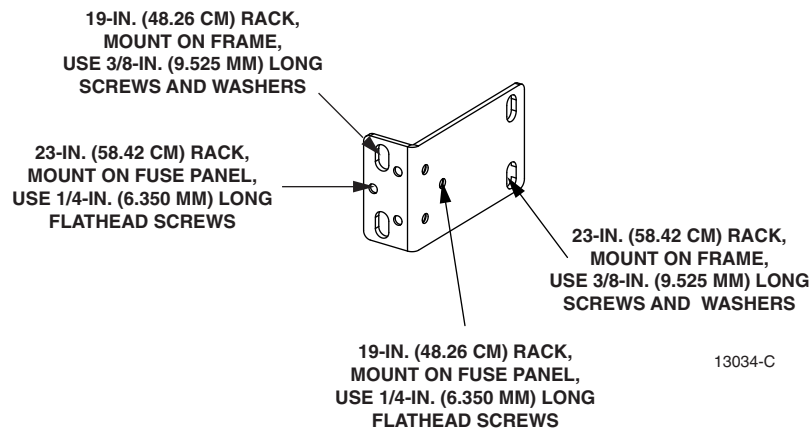

Figure 12. Universal Mounting Brackets
2. Locate the mounting brackets and determine whether they are the universal or specific rack width type. The universal brackets have a triangular pattern of holes as shown in Figure 12.
3. If the mounting bracket is the universal type, mount the bracket on the panel using the holes and hardware indicated in Figure 12.